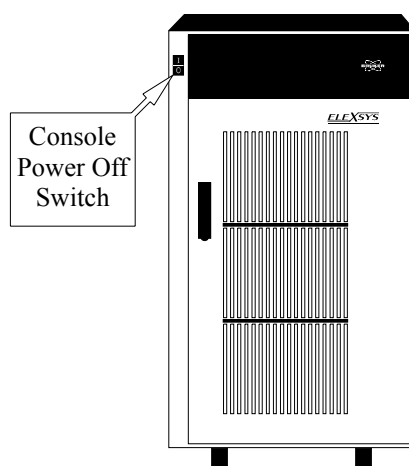

Figure 3-32 The location of the console power switch.
12. **Turn off the power for the console.** The power switch (red button) for the console is located in the upper left front corner of the console. (See Figure 3-32.)